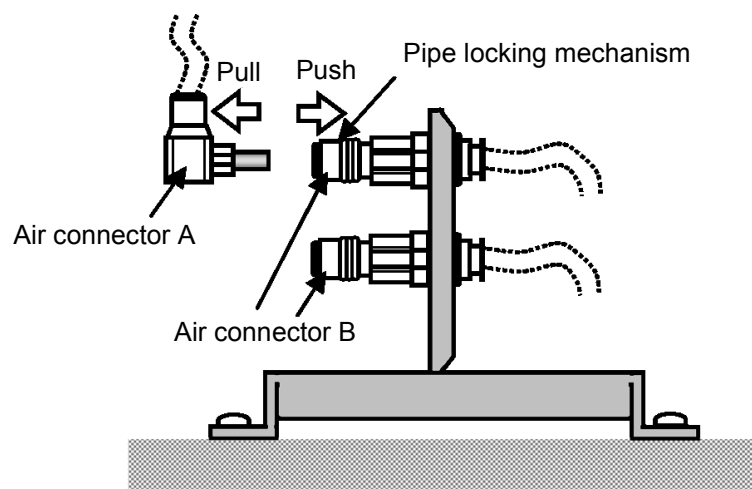

Figure 12-1 Air Connector A Removal
- (1) Turn off the system power. Turn off the main air supply for the system.
- (2) Remove the air connector A as shown in Figure 12-1.